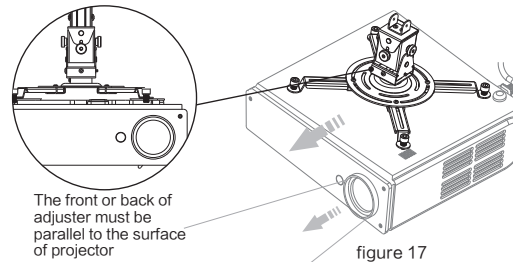

figure 17
5. The front or back of adjuster must be parallel to the surface of projector as figure 17